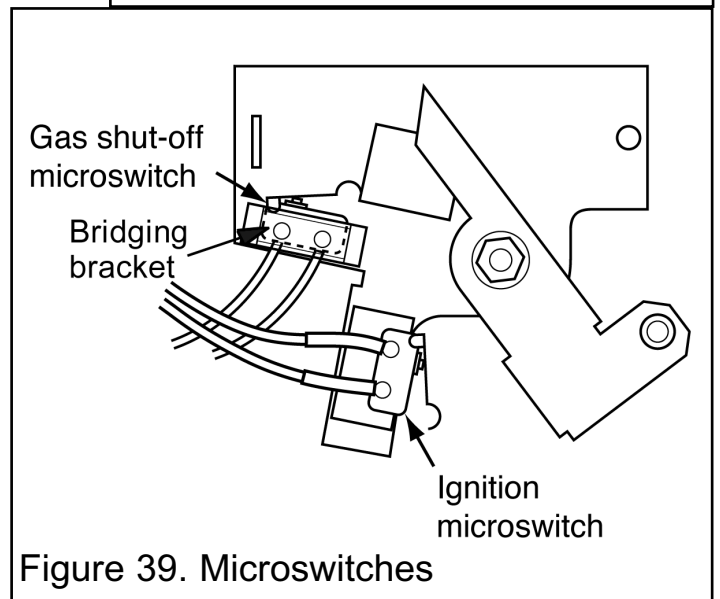

Figure 39. Microswitches
See figures 39 & 40.
2. Disconnect the leads from the ignition microswitch (The lower of the two microswitches - See figure 39).
(See figures 39 & 40).
3. Detach the bridging bracket, microswitch assembly by removing two screws (See figure 39).